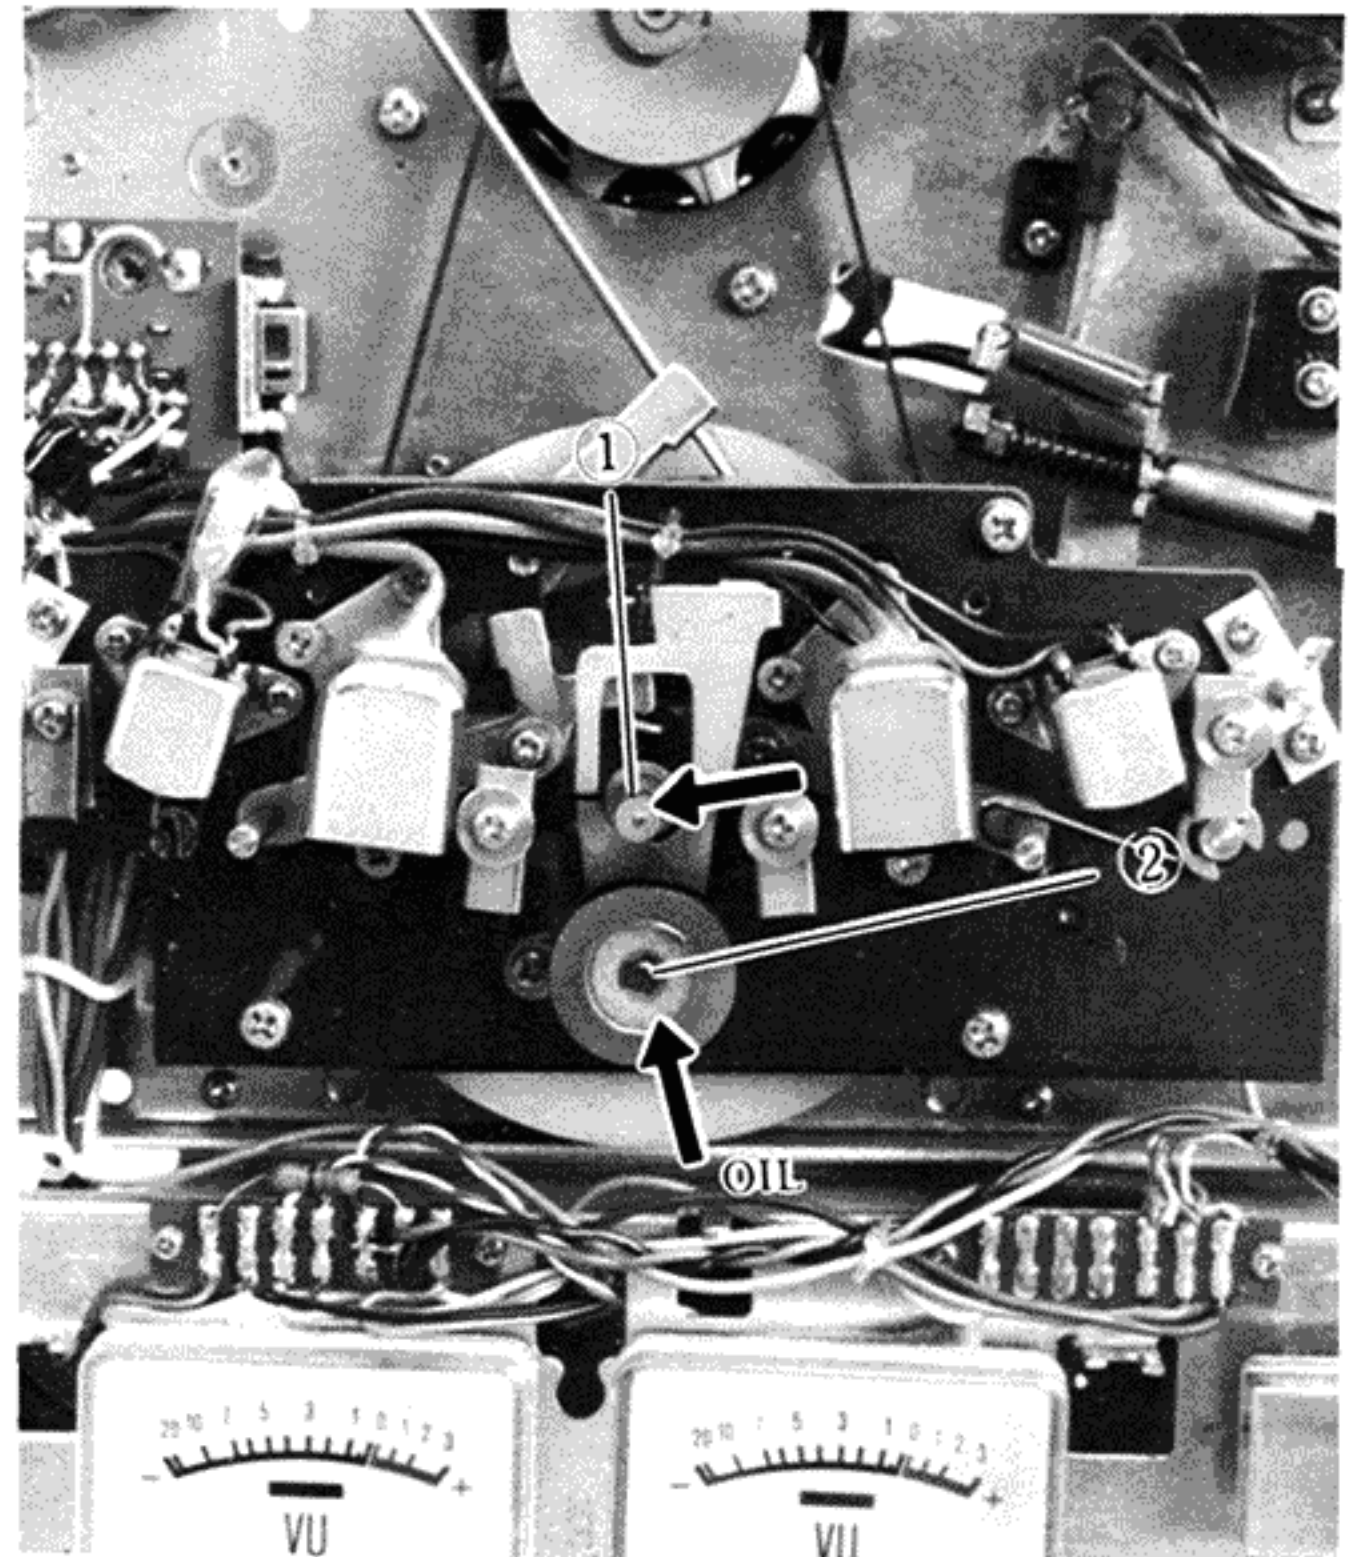

Fig. 5
### 2. Lubricating the motors and other rotating parts (Fig. 5)
- 2) Capstan piece ① can be lubricated successfully at its upper part; however, if possible remove the capstan and wipe the capstan and inside the capstan piece with a lint-free dried cloth before putting oil into the capstan piece. (Fig. 5)
- 3) Remove the cap of the pinch roller ② and add oil to the molybdenum of the upper part. Use DTE heavy medium for both the capstan piece and pinch roller.